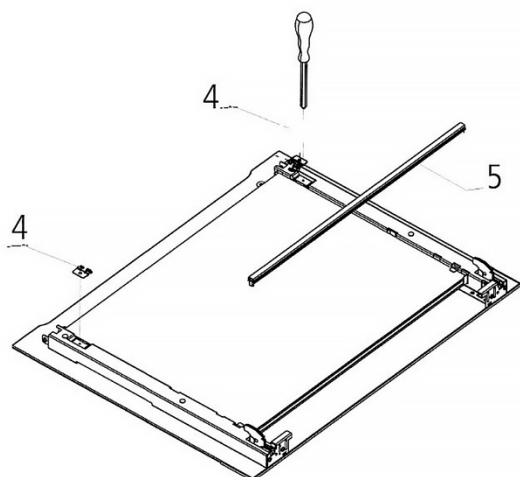

Fig. 5
3. Loose clips and the seal assembly for the inner glass panel 5. (Fig.5)